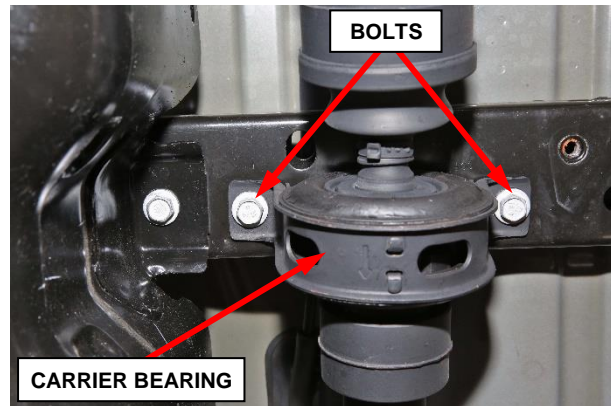

Figure 11 – Center Support Bearing
13. Remove and **DISCARD** the two center support carrier bearing bolts then remove the rear driveshaft from the vehicle (Figure 11).